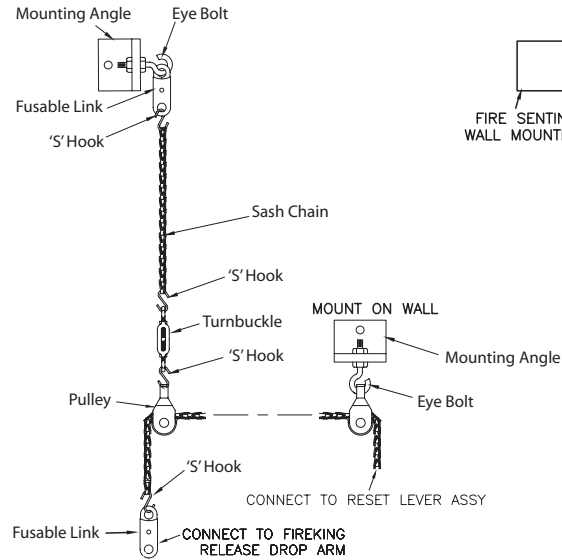

Figure 31
- Install release assembly as shown in Figures 31, 32, 33 and 34 as required.